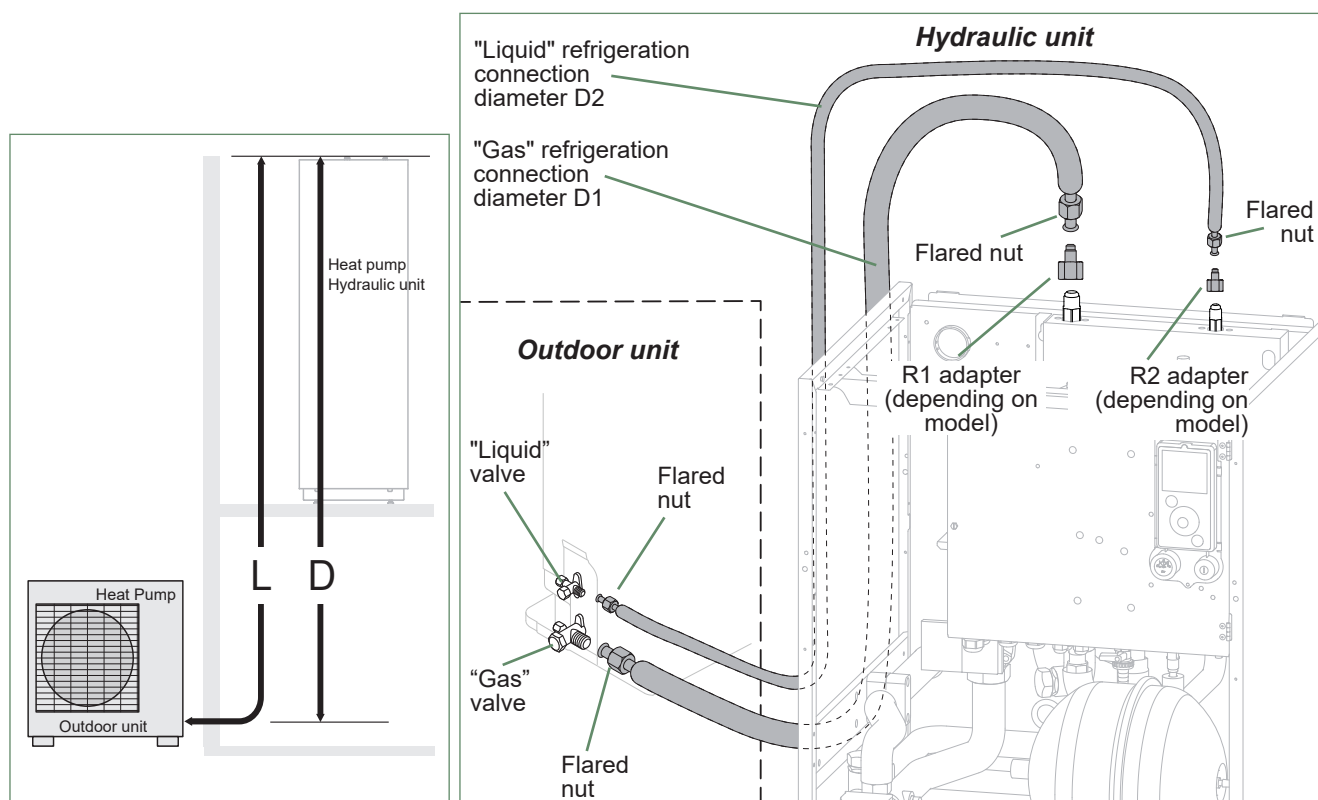

fig. 25 - Refrigeration connections (authorised diameters and lengths)
- Where necessary, connect an adapter (reducer) 1/4"- 3/8" or 1/2"- 5/8" (fig. 25).